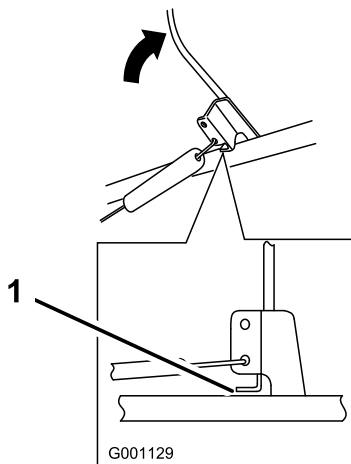

Figure 22
2. Ensure that a 1/16 to 1/8 inch (2 to 3 mm) gap exists between the control bar and the handle (Figure 22). To adjust the cable, refer to Adjusting the Cable below.